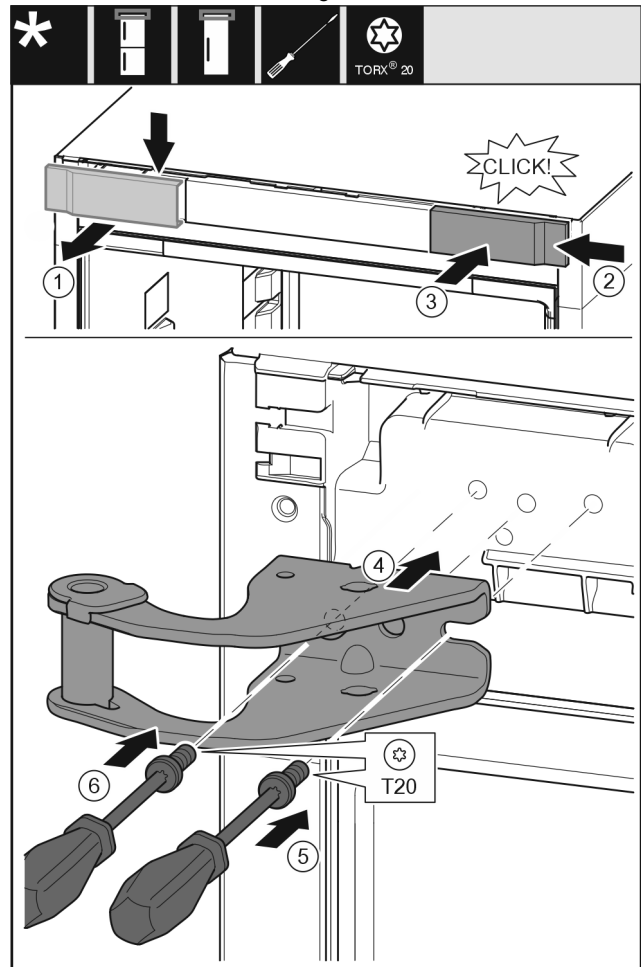

Fig. 9
- Take off the cover to the front from above. Fig. 9 (1)
- Rotate the cover 180° and clip onto the other side from the right. Fig. 9 (2)
- Latch the cover into place. Fig. 9 (3)
- Position the upper bearing bracket. *Fig. 9 (4)*
- Insert the screw with a T20 screwdriver and tighten it. *Fig. 9 (5)*
- Insert the screw with a T20 screwdriver and tighten it. *Fig. 9 (6)*